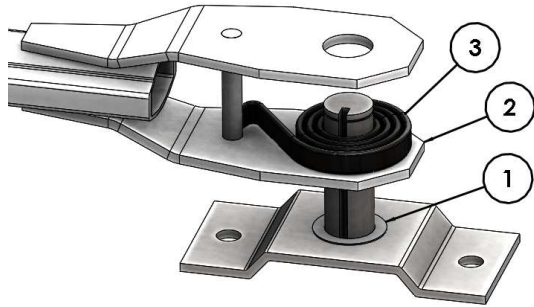

Figure 4.12
The torsion springs are designed with a tab which is inserted into the pivot pin slot. Install bushing/flat washer (1) over pivot pin. Slide bottom of the arm (2) over the pivot pin and install springs (3) one at a time as shown (Figure 4.12, next page).